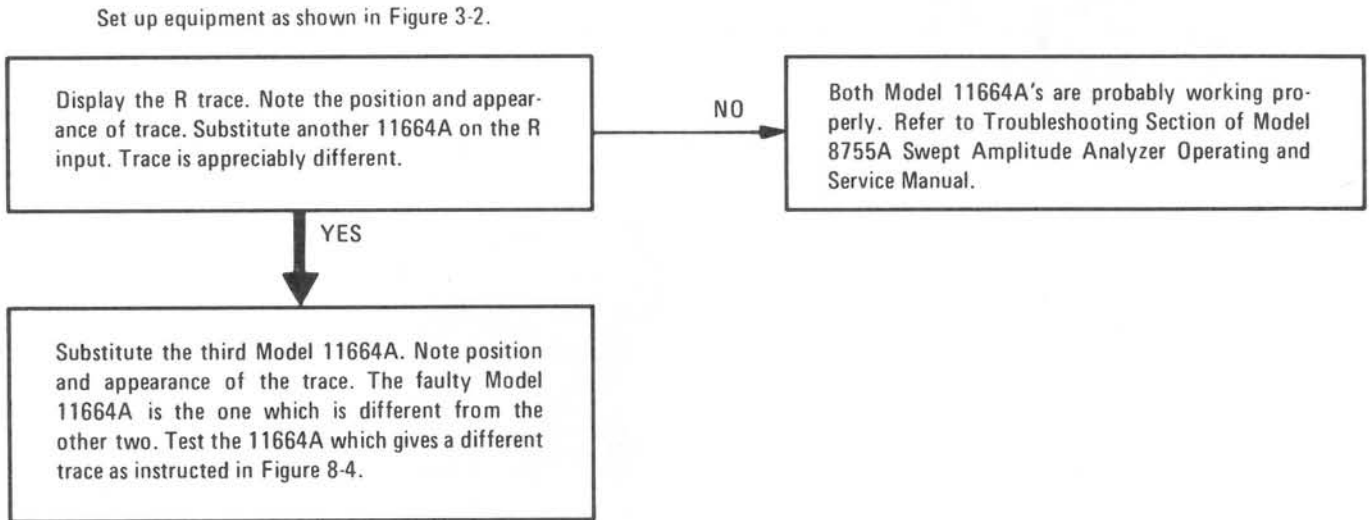

Figure 8-3. Preliminary Troubleshooting
a. Isolate the trouble to either the Detector or the Model 8755A using the procedures in Figure 8-3.